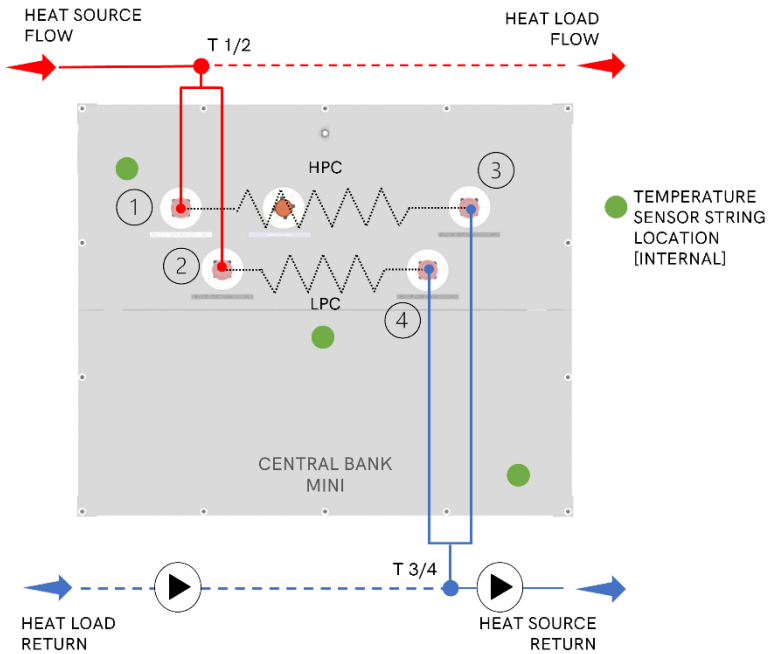

Figure 8: Central Bank Mini configured as a heat buffer without hydronic separation
- The hydronic connection arrangement shown in Figure 8 should be considered when either a) hydronic separation between the heat source and the heat load is not required, or b) simultaneous charging and discharging of the heat battery is not required.